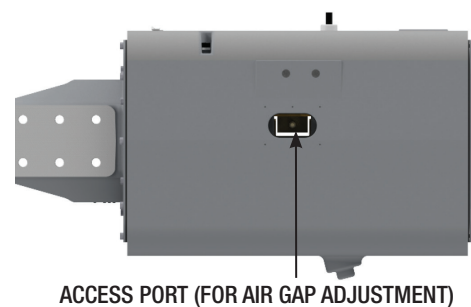
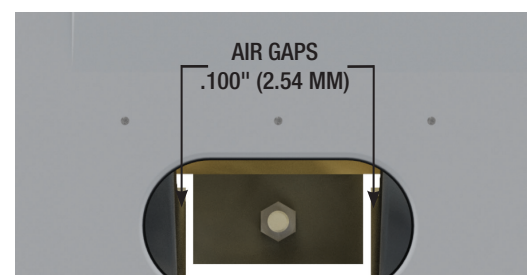

Figure 10 - Access Port
Figure 11 - Motor Gap
8. Remove the nameplate from the side of the body casing to gain access to air gap (See Figure 10).
9. Working through the opening in the side of the body casing (Figure 10) and using a non-magnetic feeler gauge furnished with each unit, (Part 22) approximately 3 mm (100") thick, check the air gaps between the E-Frame legs and the armature pole pieces (See Figure 11). These gaps should be uniform in width and parallel and as nearly alike as possible. If they are not, they should be adjusted by shifting the electrical assembly plate with the front or rear adjustment screws. In checking the gaps, the internal parts will be easier to see if the rear cover (Part 3) is removed.